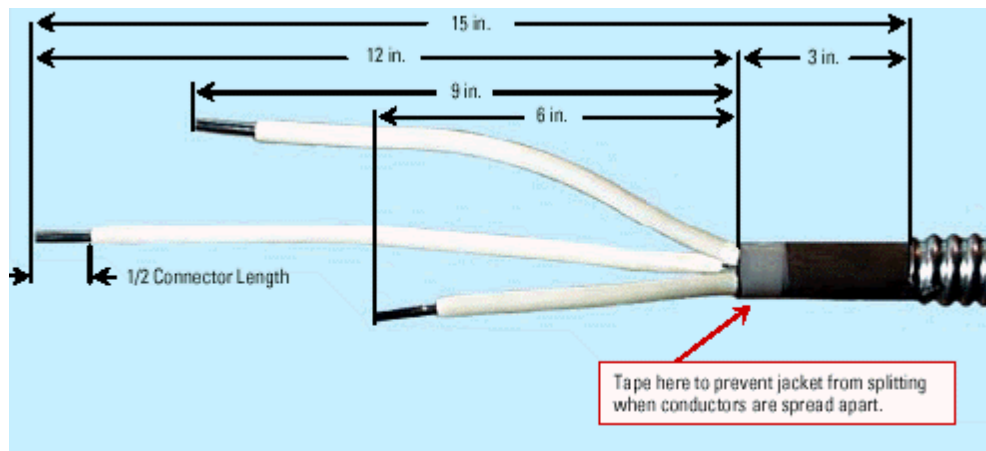
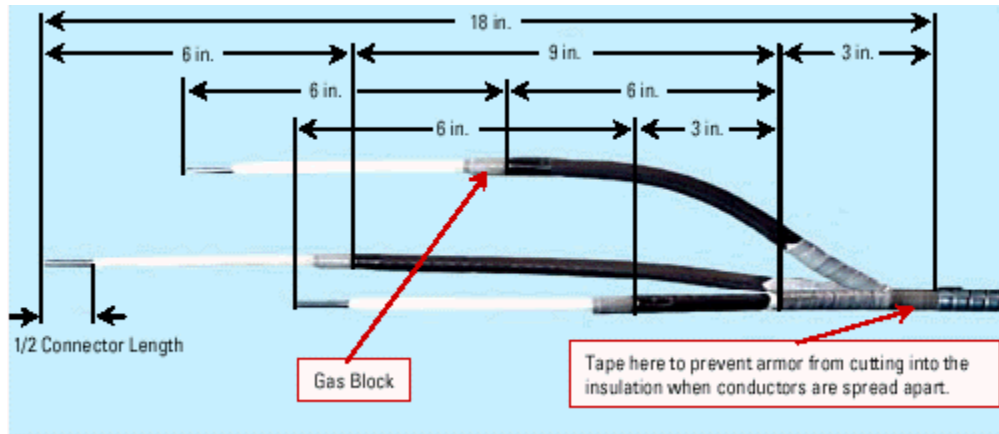

Figure 5-26: Conductor preparation for cables without barriers
Figure 5-27: Conductor preparation for flat cables with barriers
2. Prepare the cable ends. Figure 5-26 shows dimensions for cables without barriers. Figure 5-27 shows dimensions for cables with a taped or extruded barrier between the insulation and jacket. Carefully remove the armor to the dimension shown in the figures without cutting into the jacket. Remove any burrs or sharp edges on the cut and bend the armor to fit snugly around the jacket.